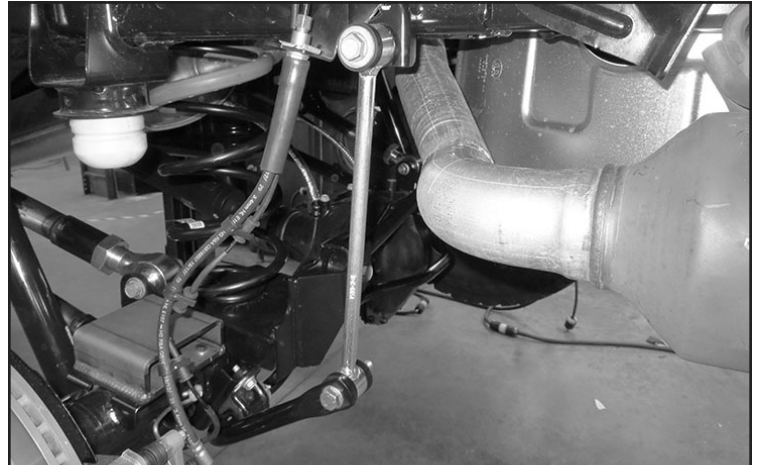

FIGURE 18 - STEP 19
19. Install the FT1004 (Half bushings) and FT404739 (Sleeves) into FT1599-2-4 (Rear sway bar links). Then, install the new links to the sway bar and sway bar mount on the frame using supplied M12 x 70mm bolt and large O.D. washer for the upper location and M12 x 70mm bolt regular washer, large O.D. washer and nut for the lower. Use the larger washer on the nut side. **NOTE: The new end link will need to be installed on the inside of the sway bar and axle mount.** Torque to 65 ft-lbs **SEE FIGURE 18**